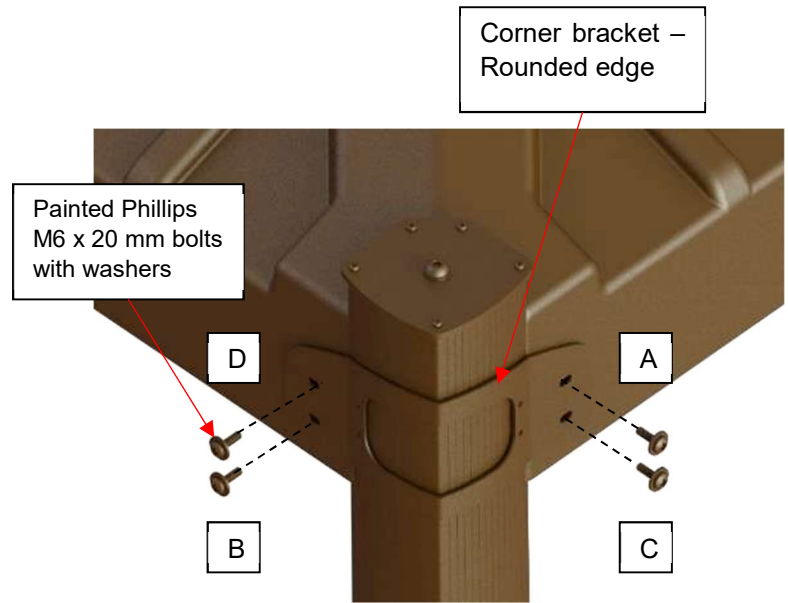

Figure 82
- 3) Install the first corner bracket (Figure 82). Fasten the bracket to the cover with four painted Phillips M6 x 20mm bolts and 5/16" painted washers.
Note: Follow the patterns shown for installing the bolts (A to D). (Figure 82)
Note: We recommend placing the rounded edge of the corner bracket toward the top. (Figure 82)